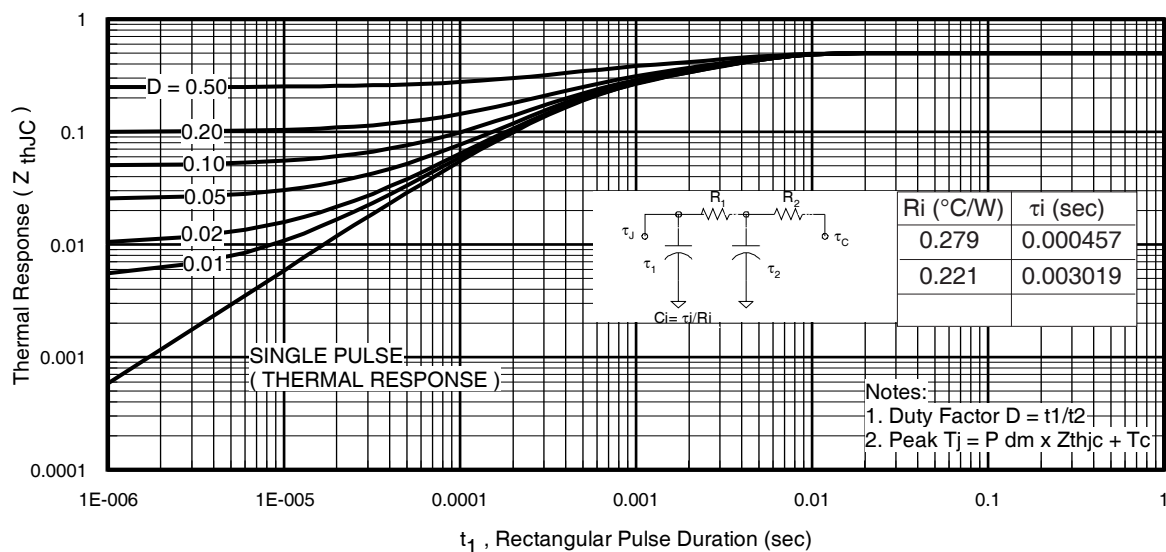

Fig 11. Maximum Effective Transient Thermal Impedance, Junction-to-Case
- ① Repetitive rating; pulse width limited by max. junction temperature. (See fig. 11).
- ② Limited by T_{Jmax} , starting $T_J = 25^\circ\text{C}$, $L=0.095\text{mH}$, $R_G = 25\Omega$, $I_{AS} = 75A$, $V_{GS} = 10V$.
$Z_{thJC}(D, t_{av})$ = Transient thermal resistance, see figure 11)